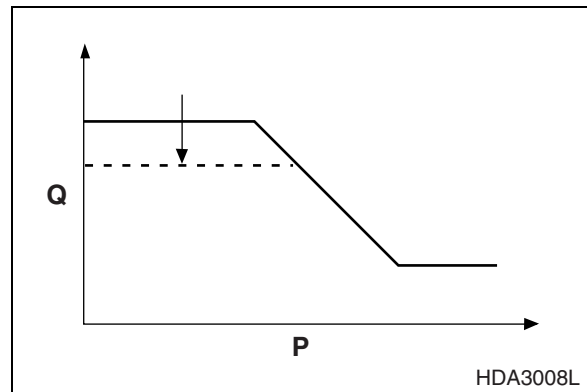
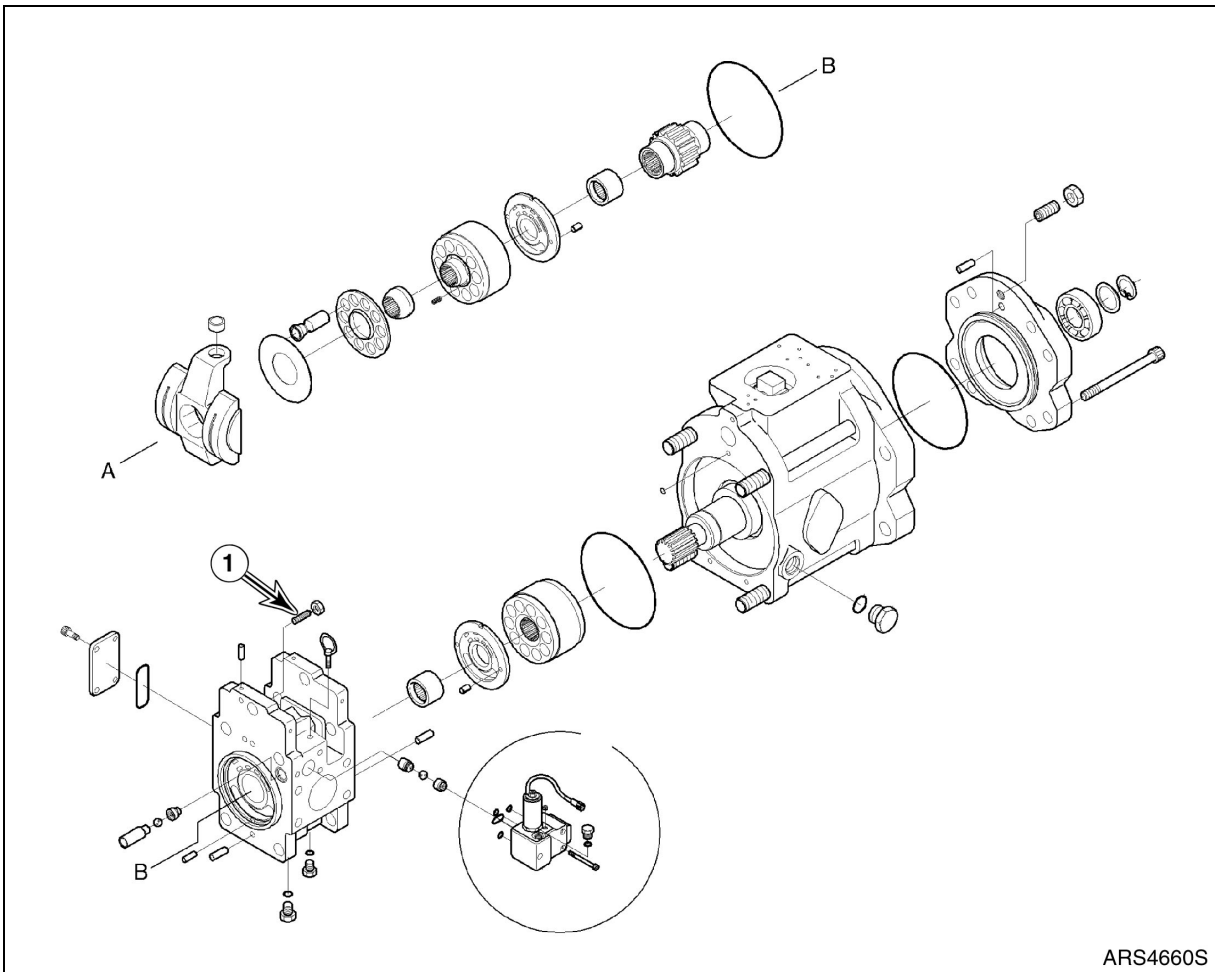

Figure 13
Figure 14
The adjusting screw (1, Figure 14) affects the delivery rate (Q) of the pump. Tightening the adjusting screw decreases the maximum cut flow (as shown in Figure 13) while backing out the screw increases cut flow delivery rate.